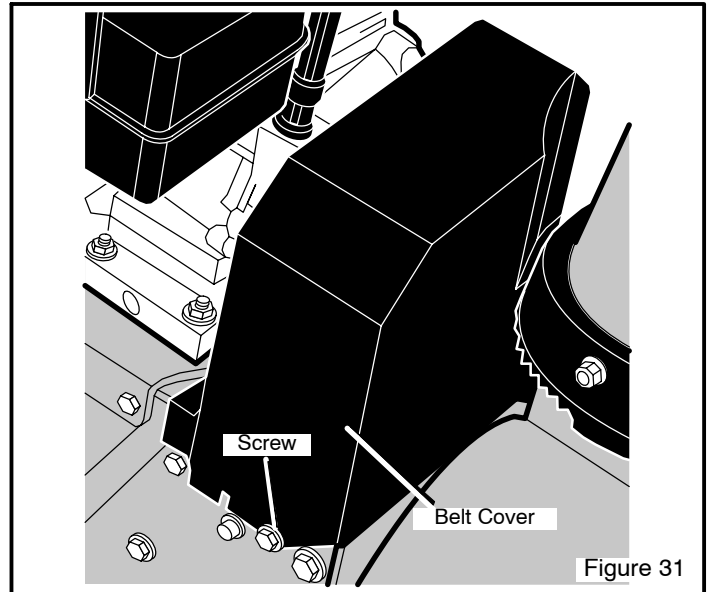

Figure 31
2. Remove **screw** from **belt cover**. Remove **belt cover** (see Figure 31).
4. Remove **screw** from **belt cover**. Remove the **belt cover** (see Figure 31).
16. Install the **belt cover**. Tighten **screw** (See Figure 31).
15. Install the **belt cover**. Tighten **screw** (see Figure 31).